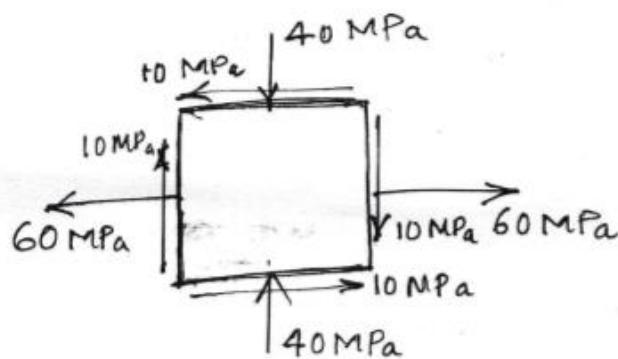

Figure 2
c) A plane element is subjected to stresses as shown in figure 2. Determine principal stresses, maximum shear stress and their planes. Sketch the planes determined. **08**